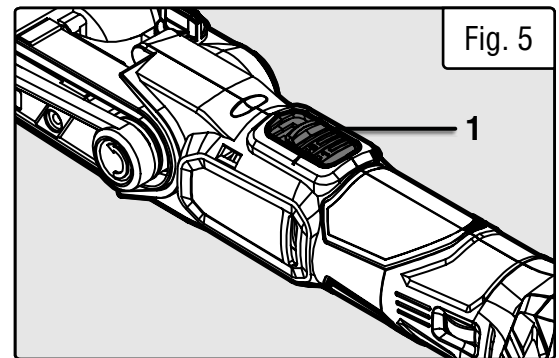

Fig. 5
2. Turn the power switch (Fig. 5 - 1) ON and allow the motor to reach full speed before beginning operation.